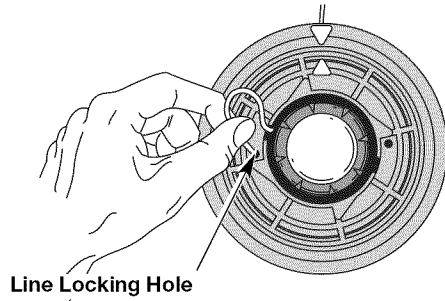

Fig. 13
5. Insert the line into the locking hole (Fig. 13). Do not push the line more than a 1/2 inch (12.7 mm) into the line locking hole. The line will form a small loop (Fig. 13) when it is inserted correctly.